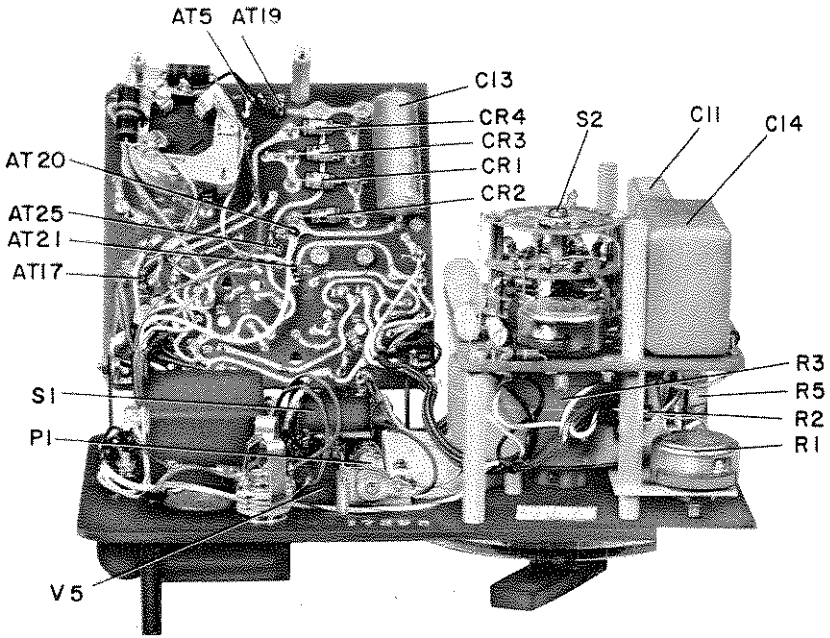

Figure 4-1. Side internal view of Type 1531 stroboscope with etched board swung open.
To remove the instrument from the case, open the case and place the instrument with the panel in a vertical position. Make certain to unplug the power connector before starting the next step. Remove the four screws from the side of the case opposite the panel and pull the instrument forward. For access to the parts located on the panel, remove the screw directly under the INPUT jack, and pivot the etched board containing the power transformer away from the panel (see Figure 4-1). Avoid damage to parts, do not allow the etched board to swing free.
If the stroboscope continually blows fuses (see Figures 4-1, 4-2, and 4-7):
If the indicator under the RPM dial is not illuminated, but the strobotron lamp fires, pilot lamp (P1, Figure 4-1) is defective. To replace, swing back the etched board (refer to paragraph 4.4.6) and unclip the lamp socket from its bracket. The lamp can now be easily replaced.
- b. If the strobotron lamp flashes at the same rate, regardless of the RPM dial setting on all three speed ranges, potentiometer R3 (see Figure 4-1) is probably open-circuited.
If the stroboscope flashes, but the CAL indicator lamp remains out when the HIGH CAL and LOW CAL settings are adjusted (see Figures 4-1 and 4-2):
If the stroboscope cannot be calibrated by following instructions given in Section 2, OPERATING PROCEDURE, see Figures 4-1 and 4-2, and check the following:
If the 6:1 ratio between frequency ranges is not correct within 1%, see Figures 4-1 and 4-2, and proceed as follows: